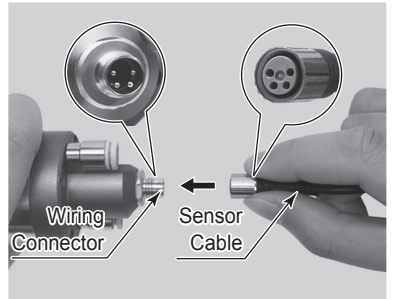

Fig. 17
- (2) Carefully insert the Holes (4 locations) on the Sensor Cable into the Pins (4 locations) on the Piping Connector, then push straight into the Piping Connector (Fig. 17).